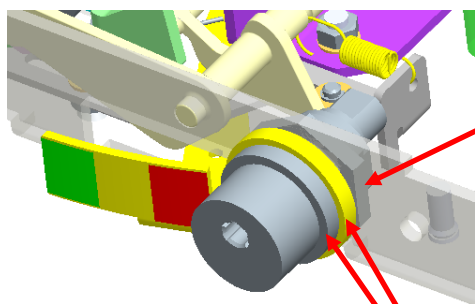

**Figure 3**
- Remove both nuts (small-M11 and big-M22) from the lock (Fig. 3.).